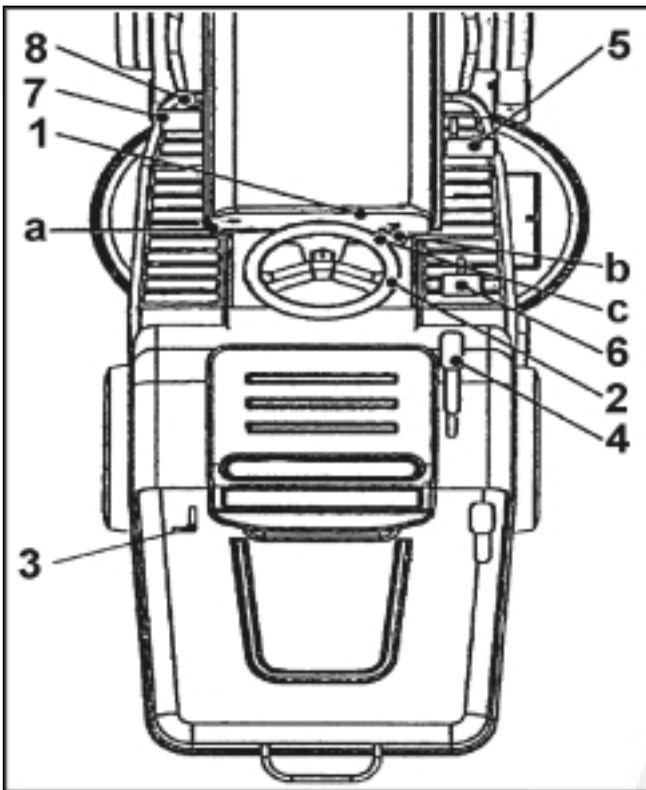

Fig. 11
CONTROLS (Fig. 11)
In case the tractor must be pushed, the transmission disengagement by-pass lever must be pulled out (Fig.11, pos. 3).